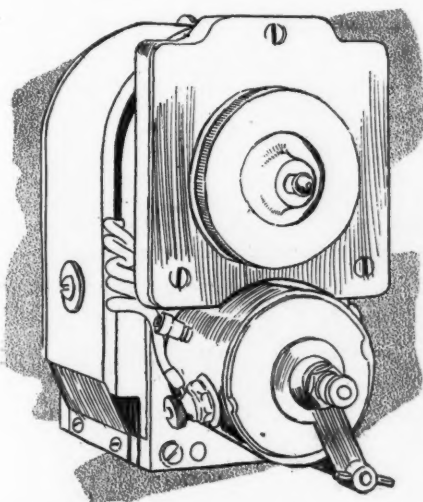

FIG. 27—HIGH TENSION MICHIGAN
**Michigan**—Fig. 27 shows the 1913 Michigan magneto model and sees no changes except in the finish and materials. The latter have been made more substantial, especially the permanent magnets which the manufacturers claim contain a high percentage of tungsten, a metal that increases the magnetic qualities of the ordinary magnet. The Michigan line for 1913 also includes the model C intended for six-cylinder motors.